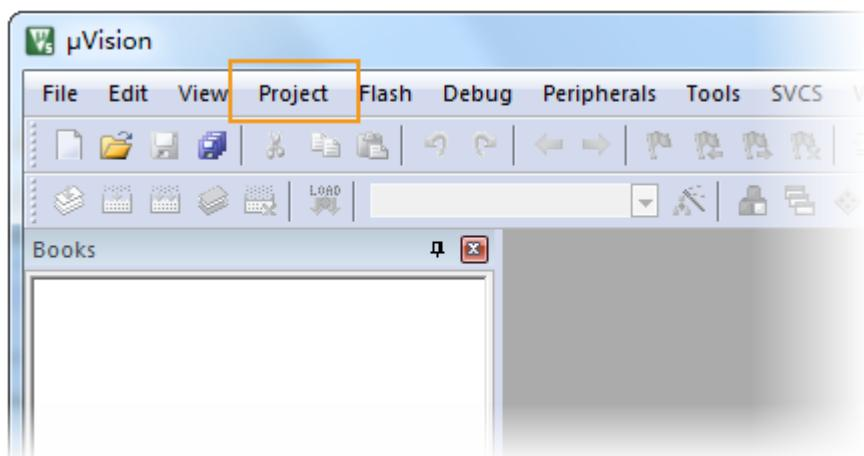
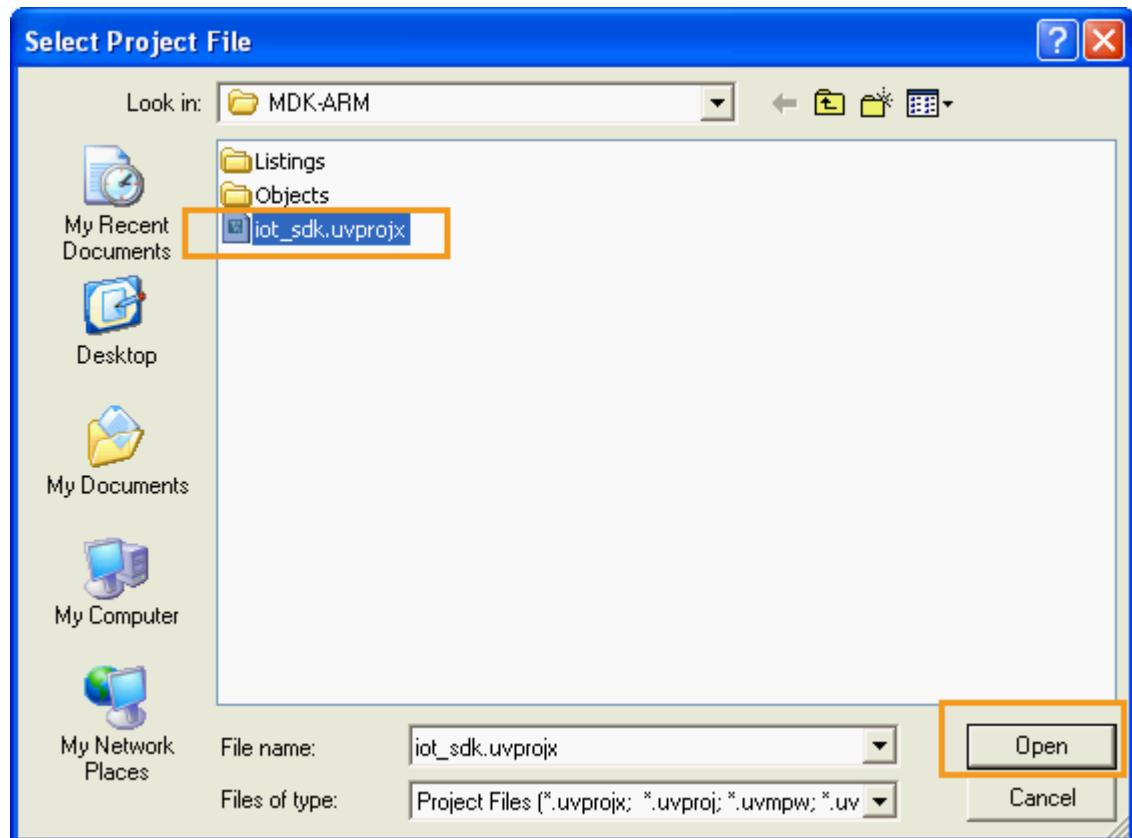

Figure 46. Importing the preconfigured project
Figure 47. Project file for Keil
- a) Navigate to **Project** (see Figure 46) in the µVision IDE's main menu, then **Open Project**. Click **Open** to import the project. The project file is named as <project>.uvprojx, such as the one shown in Figure 47.